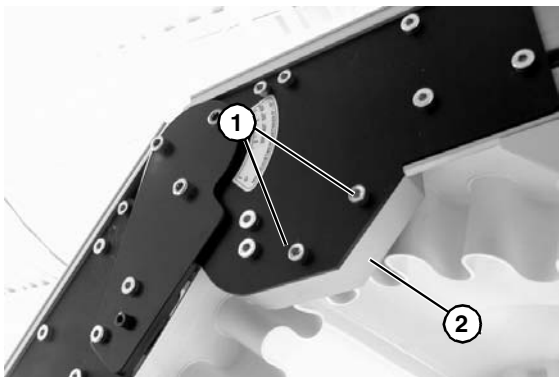

Figure 85
1. Remove screws (**Figure 85, item 1**) on both sides of knuckle and remove guard (**Figure 85, item 2**).